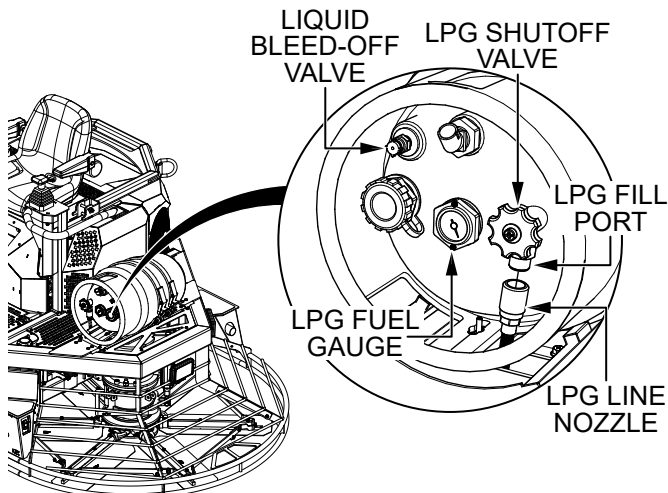

Figure 29. LPG Shutoff Valve
1. Turn the LPG shutoff valve (Figure 29) clockwise until closed.